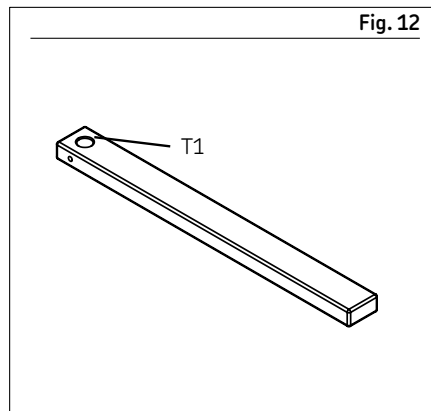
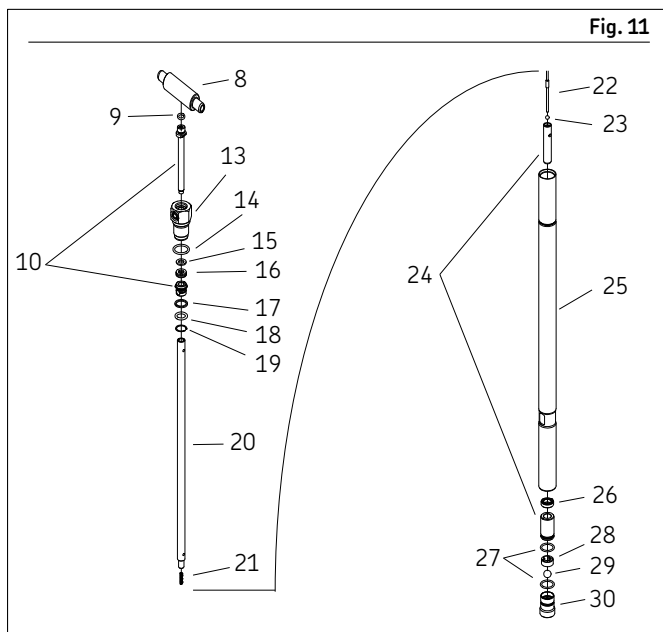

Fig. 12
Fig. 11
- 2 Using 5/16–24 bolt, press out wrist pin bushing (12).
- 3 Remove crank rod (7).
- 4 Refer to Fig. 11 and remove wrist pin anchor (13) from reciprocating tube (25).
- 5 Pull cup seal (16) out of wrist pin anchor (13).
- 6 Remove steel backup ring (17).
- 7 Place plunger link rod (20) in vise.
- 8 Loosen plunger link rod (20) and remove from outlet pin (8).
- 9 Remove plunger link rod (20).
- 10 Remove retainer clip (19) from plunger link rod (20).
- 11 Remove o-ring (18) from plunger link rod (20).
- 12 Remove back up washer (15) from plunger link rod (20).
- 13 Remove o-ring (14) from plunger tube (10).
- 14 With crank rod in vise and using special tool (T1) provided in tool kit, remove plunger link rod (20) (→ Fig. 12).
- 15 Place end of plunger link rod (20) into hole of special tool (T1).
- 16 Align outlet hole of plunger link rod (20) with hole in special tool (T1) (→ Fig. 12).